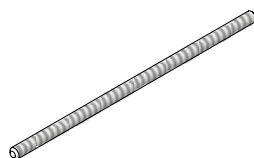

Fig. 19.1 Tie rod DW
- With tie rod DW 15 (Fig. 19.1) and M cross stiffener 44.